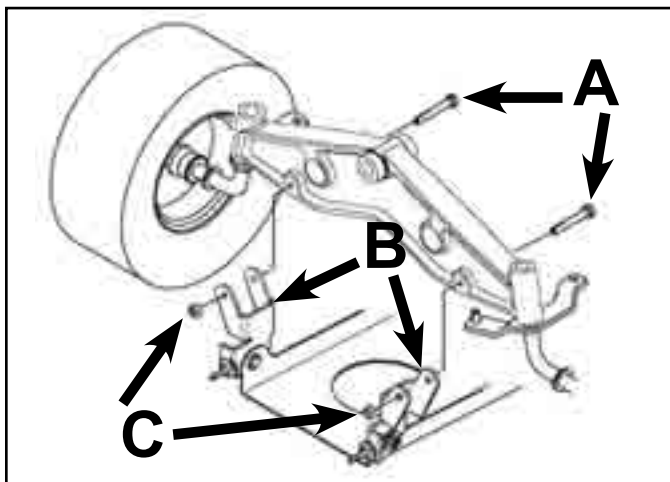

Fig A6 022
- Remove the bolts and lock nuts and pull the two mower pivot mount brackets down from the front axle (Fig. A6 022).